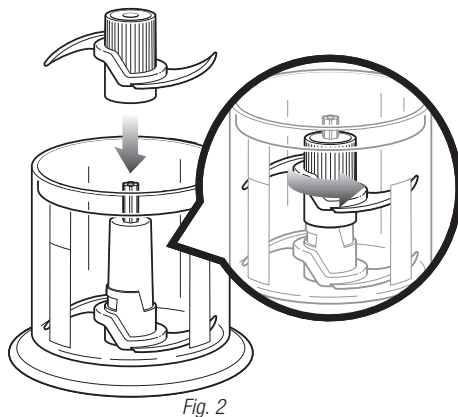

Fig. 2
- Use the Ninja 4-Blade Assembly in the 40 oz. Pitcher. (fig. 2)
- 4 Carefully insert the Upper Chopping Blade Assembly over the Lower Chopping Blade Assembly rotating it until it locks onto the Lower Chopping Blade Assembly. (fig. 2)